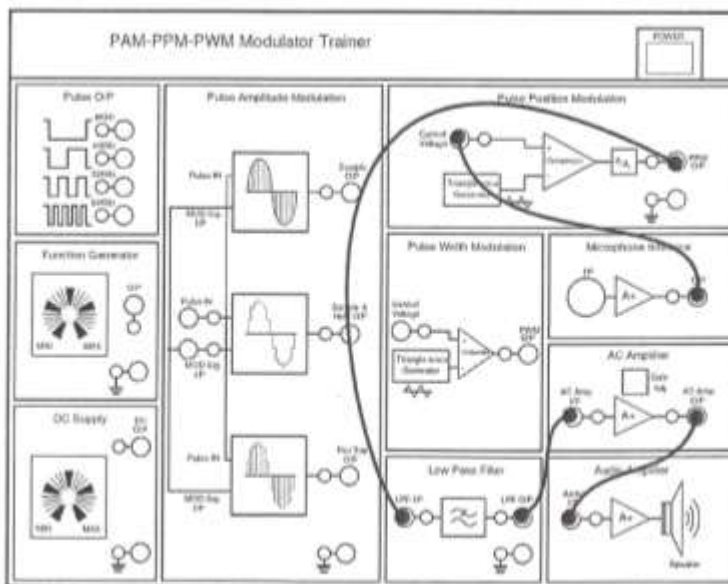

Fig. 24
1. Connect the circuit as shown in Fig 24.